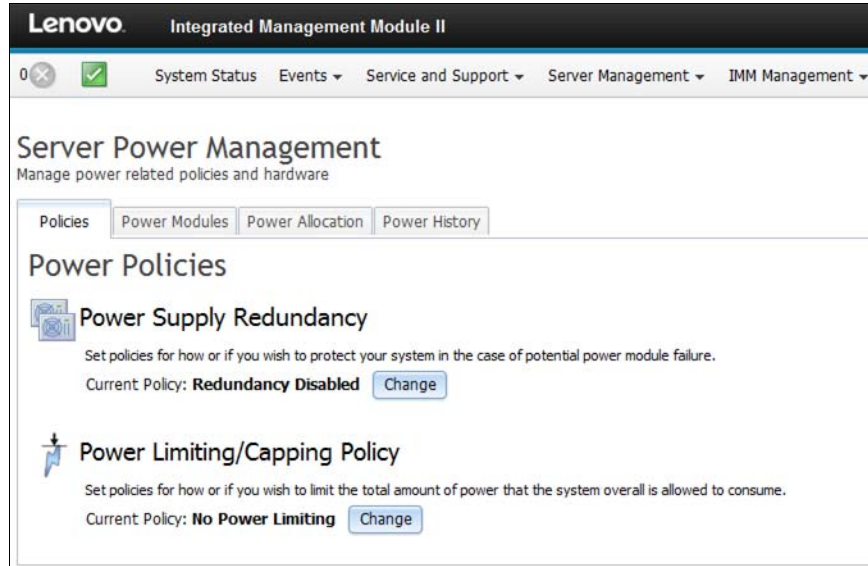

Figure 4-6 Server Power Management page in the IMM2
1. Connect to the IMM2 interface as described in 7.2, “Integrated Management Module II” on page 244. Access the Server Power Management page by selecting **Server Management** → **Power Management**. The panel in Figure 4-6 is opened.